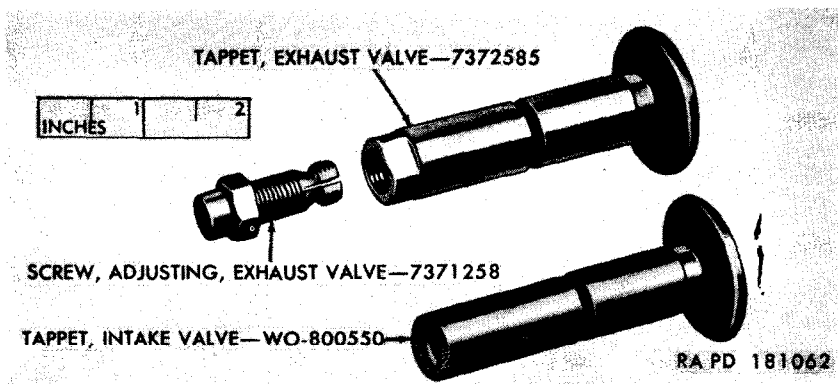

Figure 51. Intake and exhaust valve tappets—disassembled view.
Remove the exhaust valve adjusting screw from the end of the exhaust valve tappet. The intake valve tappet, being one piece (fig. 51) is subject only to the cleaning and inspection operations.
- (1) Check the threads and the fit of the exhaust valve adjusting screw in the exhaust valve tappets (fig. 51). The fit of a screw should be such that a wrench is required to turn it into or out of the tappet. Replace the worn part, either the screw or the tappet, or both, if there is looseness between the parts.
- (2) Check the clearance of the tappets in their bores in the cylinder block (repair and rebuild standards (par. 142b)). If there is excessive clearance between the bore and the tappet, try new unused tappet in the bore. If the clearance is still